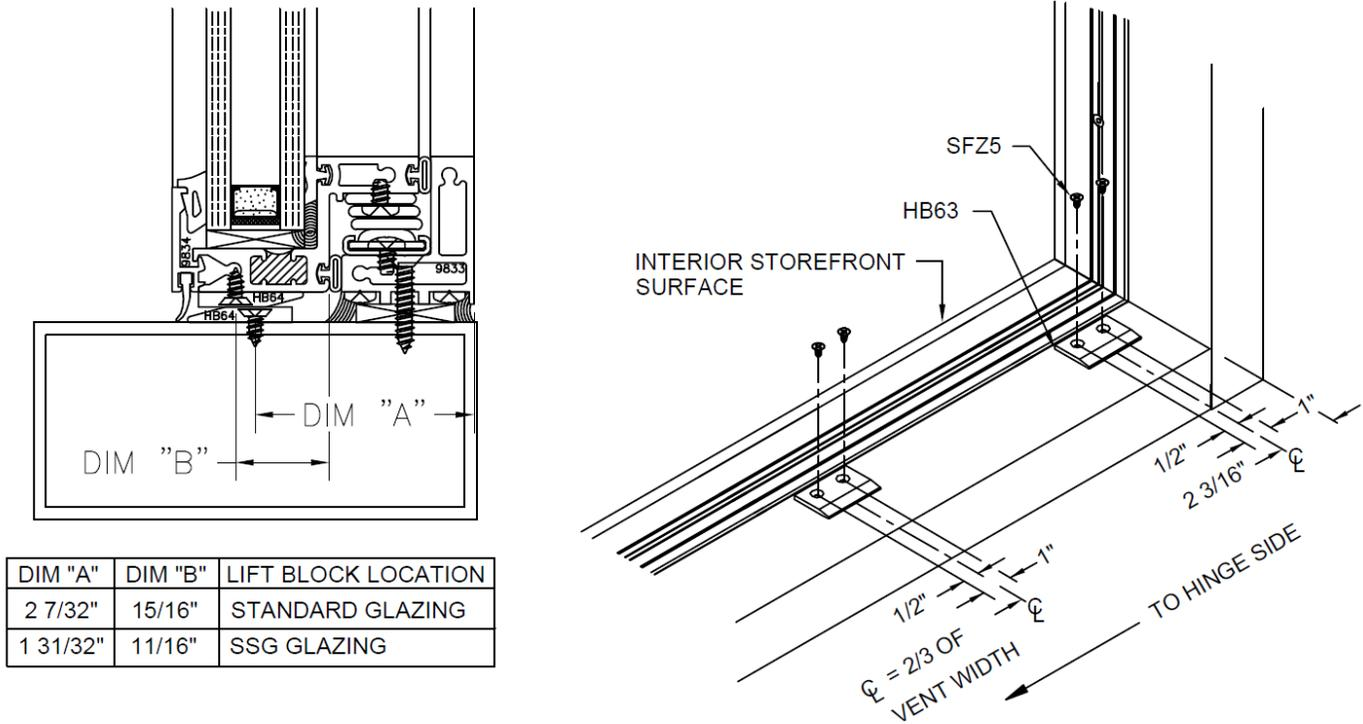

Figure 24
Locate the center line of the lift block HB64 as required per the vent size. See Figure 24. Check the lift block location mounted on the vent for correct center line.
Drill (2) .136" diameter (No. 29 drill) holes per block through the storefront framing shown in Figure 24, and install with (2) SFZ5 fasteners per lift block.